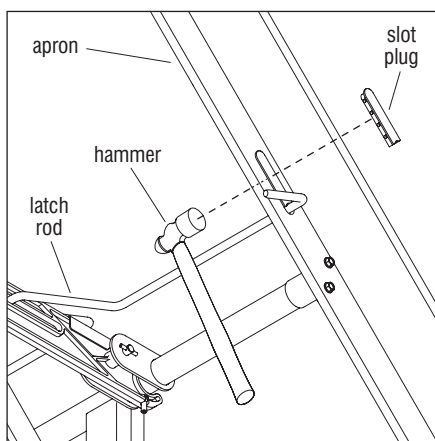

Figure 4
4. From inside the apron, use a hammer to gently tap the slot plug free from the apron and save for re-installation on page 6, step 11 (Figure 4).